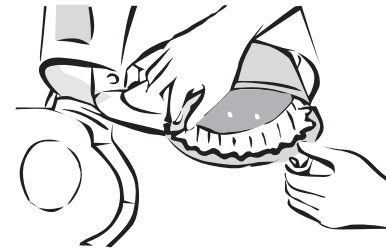

Figure 8
- Once you are done enjoying your coffee, discard the used grounds by removing the grinding chamber assembly and lifting out the filter basket. Rinse the filter basket and replace it. See Figure 8.